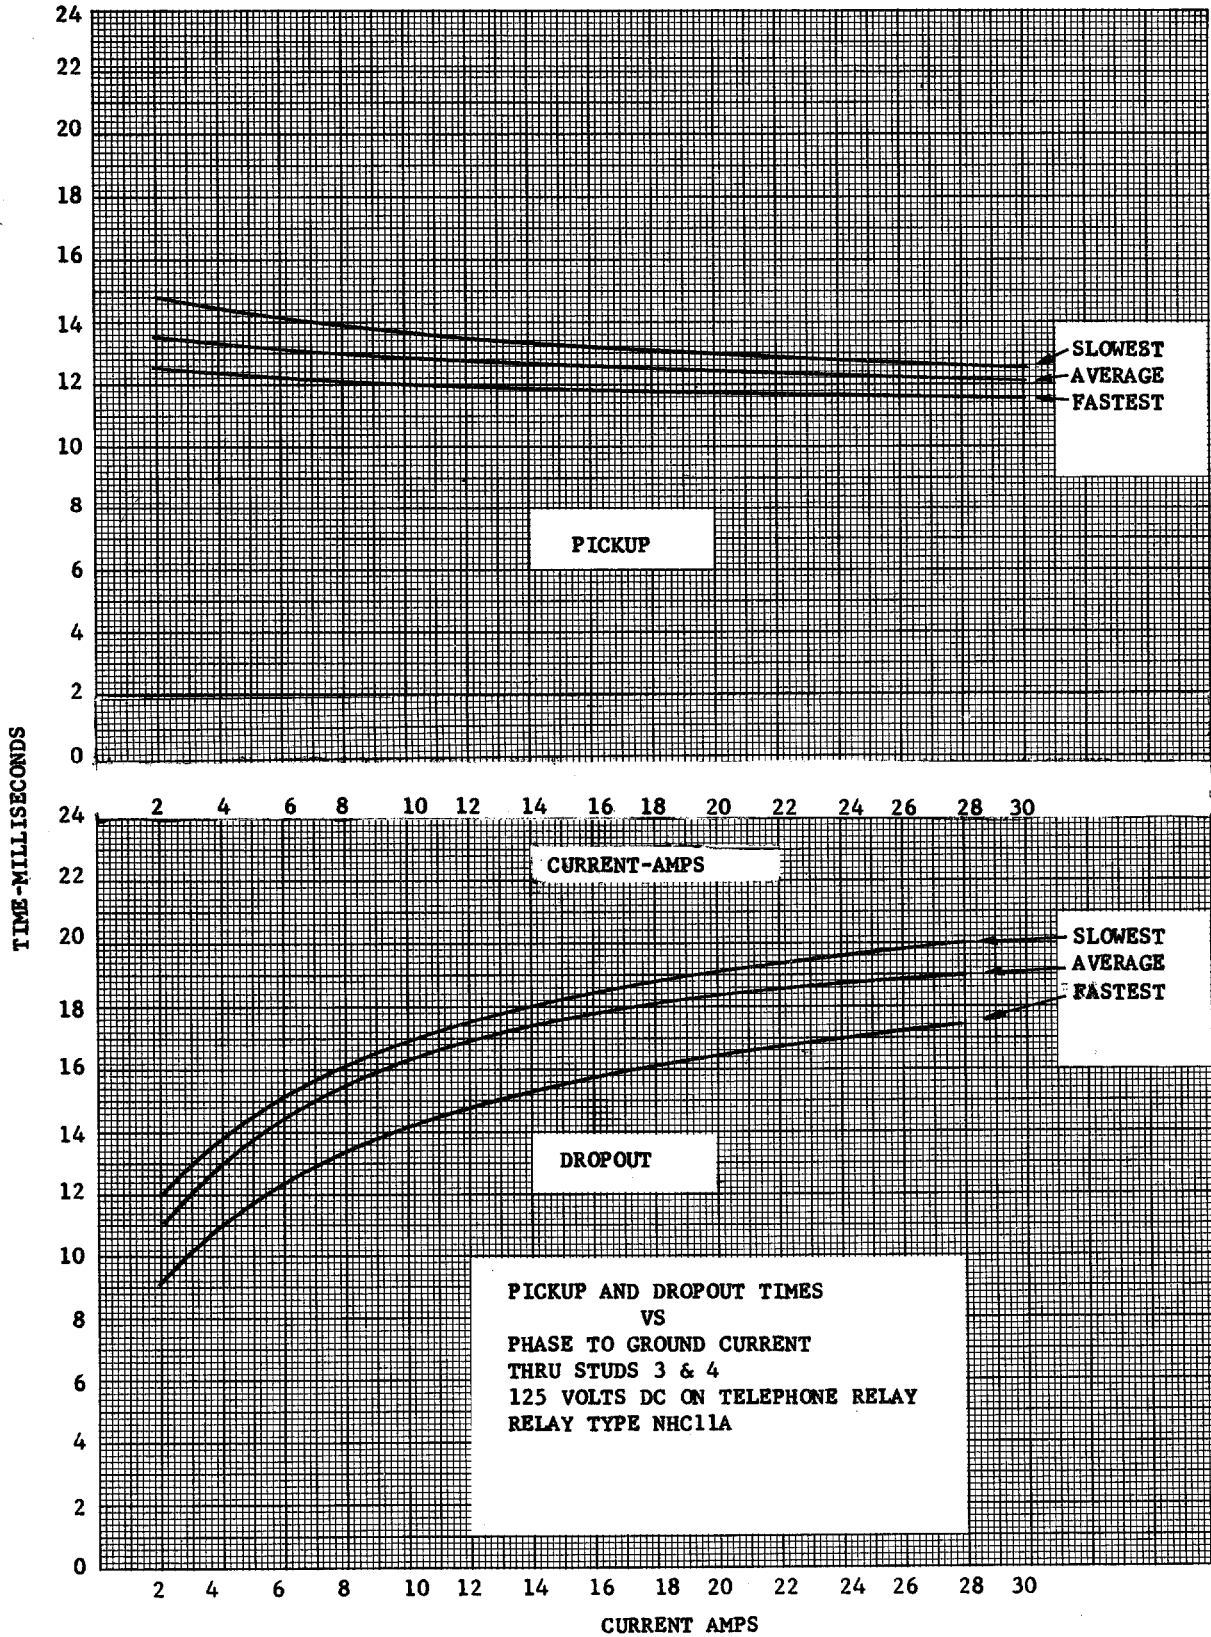

Fig. 5 (0195A9118-1) Time Current Curves For Phase To Ground Faults, Relay Type NHC
Because these NHC11A and NHC11B relays were specifically designed for use as fault detectors in breaker failure schemes, they have high speed pickup and dropout characteristics. (See Figures 5 & 6.) These relays will operate to close their contacts when the current that flows in any one of more of the three input circuits exceeds 1.0 ampere. At the same time they may be continuously energized with 8 amperes in all three input circuits simultaneously. As will be noted from the external connection diagram of Figure 8, the main measuring unit (I) of the relays operates an internal auxiliary unit to provide the four electrically separate contacts. Thus, a DC source is required in the application of these relays.
The pickup and dropout time characteristics of the relay for these conditions are shown in Figures 5 and 6 for current in the one winding, and balanced current in all three windings.
Internal connections are shown in Figure 3 for the NHC11A and in Figure 5 for the NHC11B. An external connection diagram for these relays is shown in Figure 8.